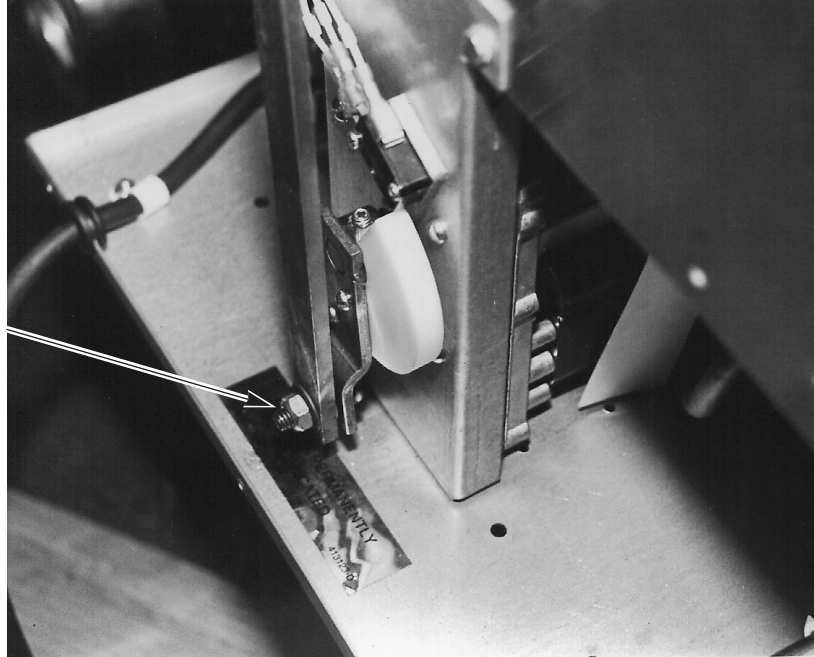

Fig. 71
2. With a 1/2" wrench or socket, remove the lift bar and cam assembly holding nut. (Fig. 71)
4. With an off set flat blade screwdriver, remove screws mounting the cam to the lift bar. (Fig. 71)